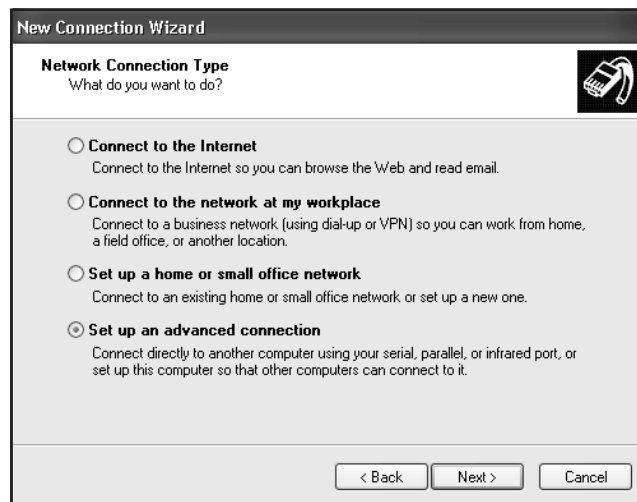

Figure 213 Selecting the Network Connection Type
5. Select “Setup and Advanced Network Connection” as shown in Figure 213. Click on **Next**.